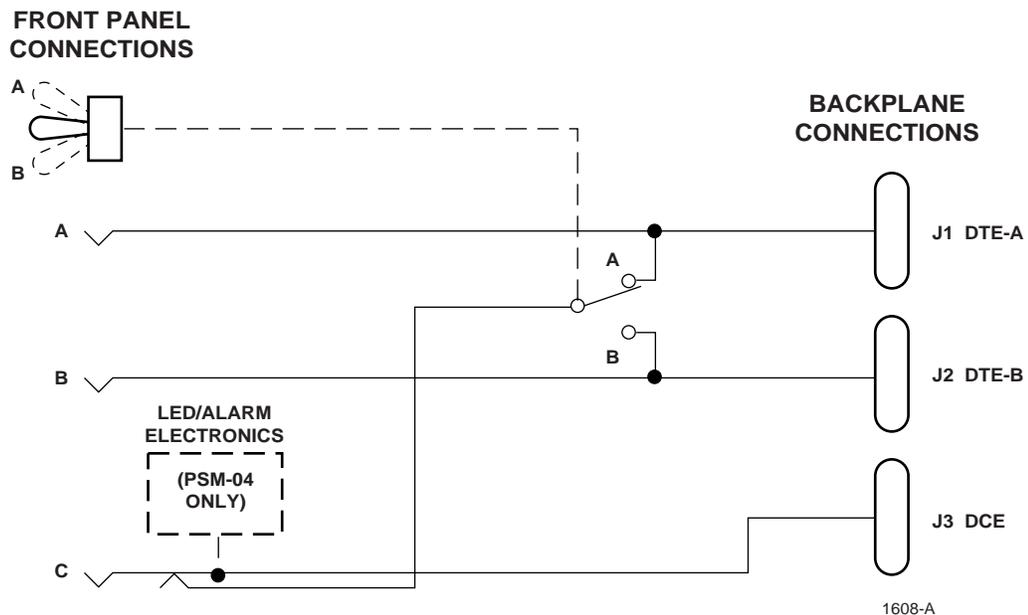

Figure 2-2. PatchSwitch with Off-Line Access (PSM-04, PSM-05)
The capability for accessing the off-line DTE device is illustrated in Figure 2-2. The upper port (A) provides patch cord access to the upper “D” subminiature connector (J-1) on the chassis rear panel. When the module is in the “A” or normal state, this provides a monitor function. If the module is in the “B” or “sub” state, this provides direct test access to the off-line device.